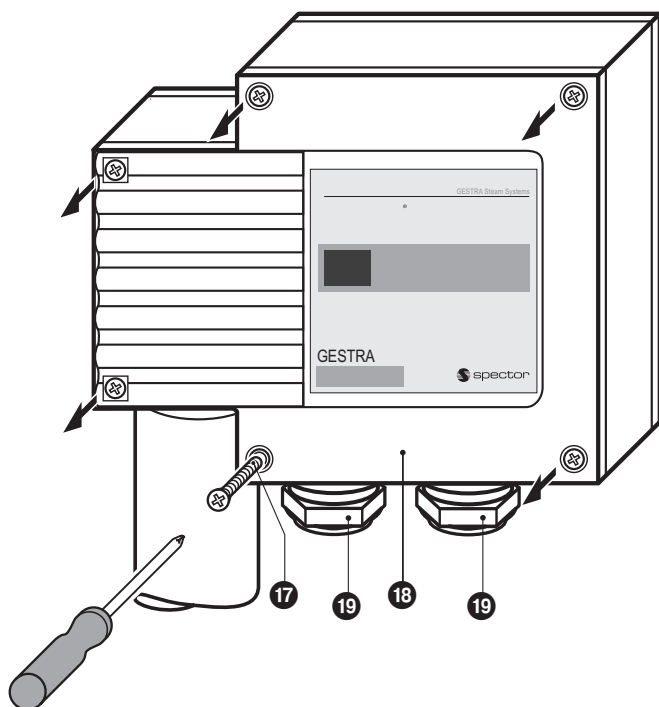

Fig. 6
1. Unscrew cover screws 17 and remove cover 18. Fig. 6
1. Undo the cover screws 17 and take off the housing cover 18. **Fig. 6**
1. Unscrew cover screws **17** and remove cover **18**. **Fig. 6**